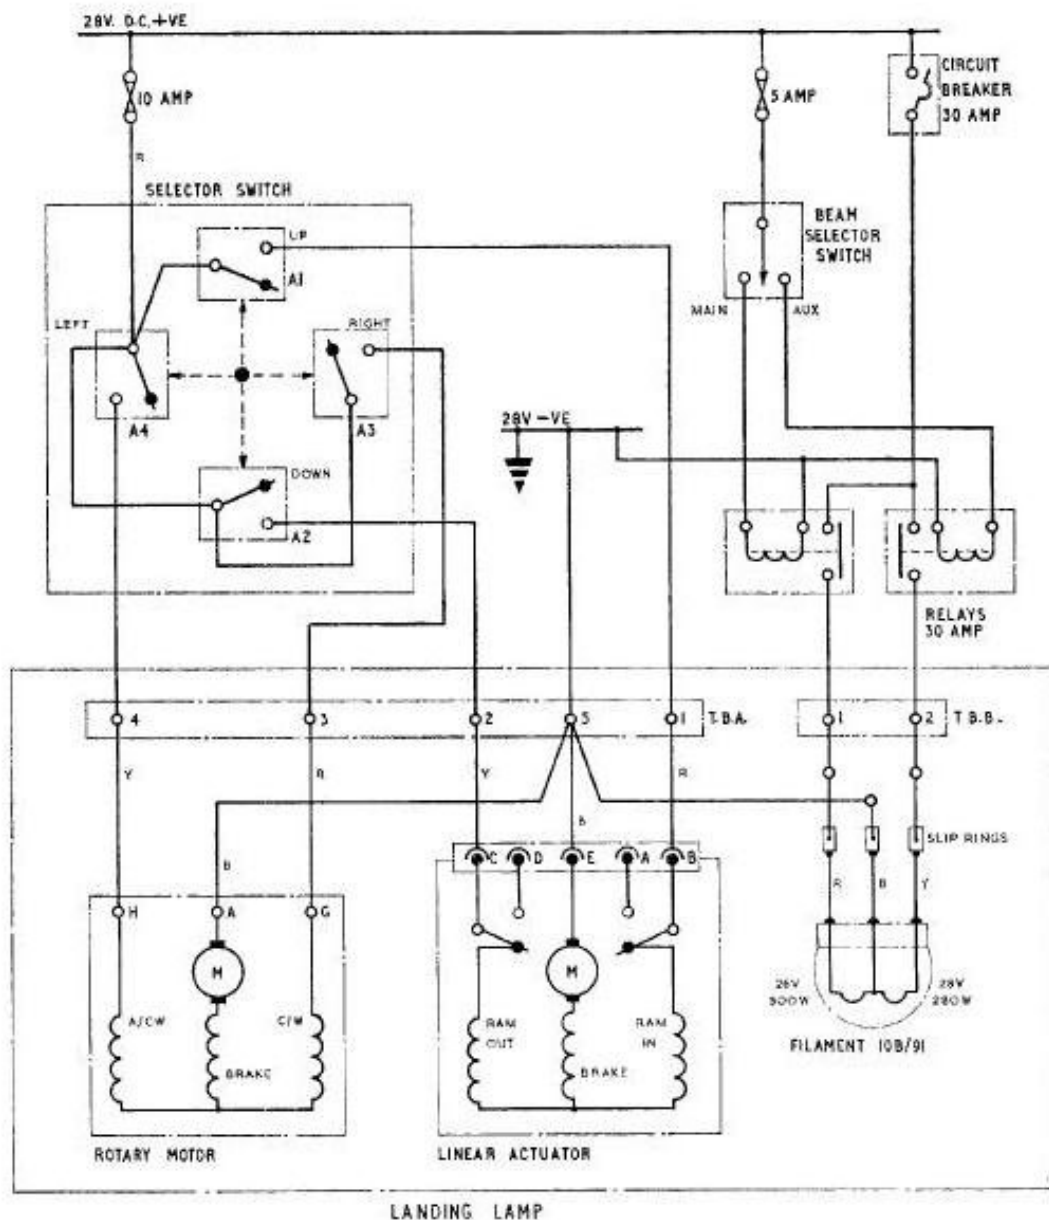

Fig. 6. Circuit diagram
15. The lamp may be selected to any position in both azimuth and vertical plane by suitable operation of the four-way switch, a typical circuit diagram is given in fig. 6. The lamp will automatically be cut-off in the fully extended or fully retracted position by the internal limit switches in the elevation actuator, but may be continuously rotated in azimuth. When the elevation actuator is operated the extension or retraction of the actuator ram pulls or pushes on the operating levers, clamped to the elevation spindle, through the connecting links. The spindle thus rotates which raises or lowers the column casting and the filament housing.